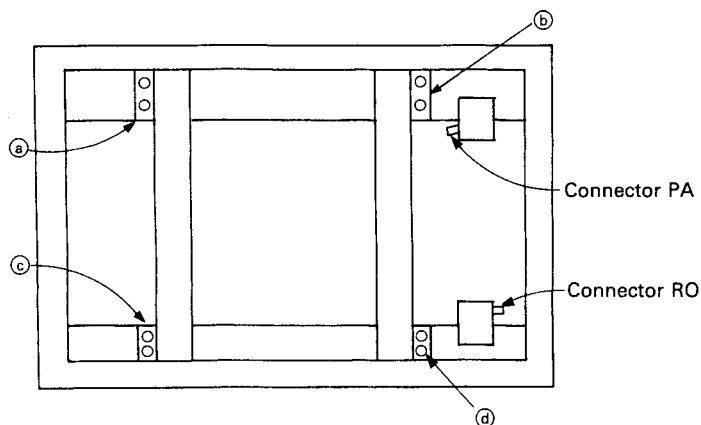
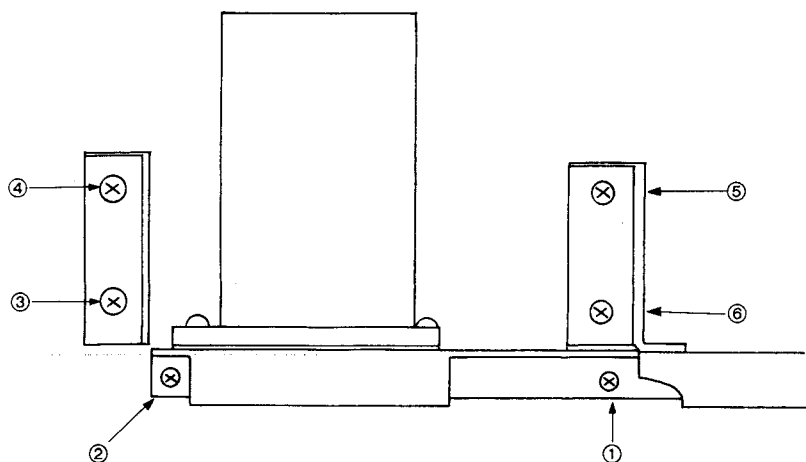

Figure 33 Rotational Mechanism Unit with Rear Cover Removed
Figure 34 Rear View of Rotational Mechanism Unit (at Right Side)
- (1) Unscrew the paper tray, paper guide, printer and rear cover in this order, and remove the rear cover.
- (2) Remove the writing sheet according to the instruction in "Replacement of Writing Sheet" and store it.
- (3) Return the writing sheet board to its specified position, and temporarily fix two screws at the centre of the board, one each at the upper and lower parts.
- (4) Disconnect the relay connector which is used to connect the plunger leads coming from the rotational mechanism units (right and left) to the main PWB, and then the connectors RE and FF which are used to connect the motor leads to the main PWB. And remove the leads from the lead holders and leave them near the right and/or rotational mechanism unit.
- (5) Remove eight screws, two each at the places ①, ②, ③ and ④, shown in Fig. 33.
- (6) Remove the screws which have temporarily fixed the writing sheet board, and detach the writing sheet board from the main body. At the time, be careful not to allow the leads of the rotational mechanism unit to be entwined between the main body and writing sheet board.
- (7) Remove the screws ①, ②, ③, ④, ⑤ and ⑥ shown in Fig. 34 from the rotational mechanism unit (at right side), and detach the rotational mechanism unit from the writing sheet board. The same procedures apply to removal of the left rotational mechanism unit.
- (1) Referring to the assembly drawing of the rotational mechanism unit shown in Fig. 34, align the screw holes of the rotational mechanism unit with those of the writing sheet board. Then temporarily fix the screw ①; this screw is used as a datum screw to decide the accuracy of the rotational mechanism unit.
- (2) Also referring to Fig. 34, temporarily fix the screw ② which is used to decide the accuracy in the vertical direction and secure the screw ① completely. Then secure the screw ② firmly and fix the screws ③, ④, ⑤ and ⑥ in this order.
- (3) The same procedures apply to reassembly of the left rotational mechanism unit.
- (4) Attach the writing sheet board, with the rotational mechanism unit secured on it, to the main body and temporarily fix the two screws at the center of the board, one each at the upper and lower parts. (At the time, be careful not to allow the leads of the rotational mechanism unit to be entwined between the rotational mechanism board and main body.)
- (5) Referring to Fig. 33 secure the screws at the places ③, ④, ⑤ and ⑥.
- (6) Connect the plunger lead (coming from the rotational mechanism unit) to the relay connector and the leads (coming from the motor) to the connectors RE and FF at the main PWB. Arrange the leads using the lead holders.
- (7) Remove the two screws which have temporarily fixed the writing sheet board and attach the writing sheet to the board according to the instruction in "Attachment of Writing Sheet".
- (8) Attach the rear cover, printer, paper guide and paper tray in this order to the main body. Thus, replacement of the rotational mechanism unit is completed.